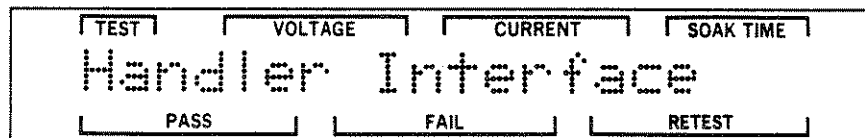

Figure 3-37. Handler Entry Screen
- STEP 8. Press the DOWN pushbutton to display the Handler Interface Entry screen. This screen provides access to the individual Handler screens. Figure 3-37 is an example of this screen.